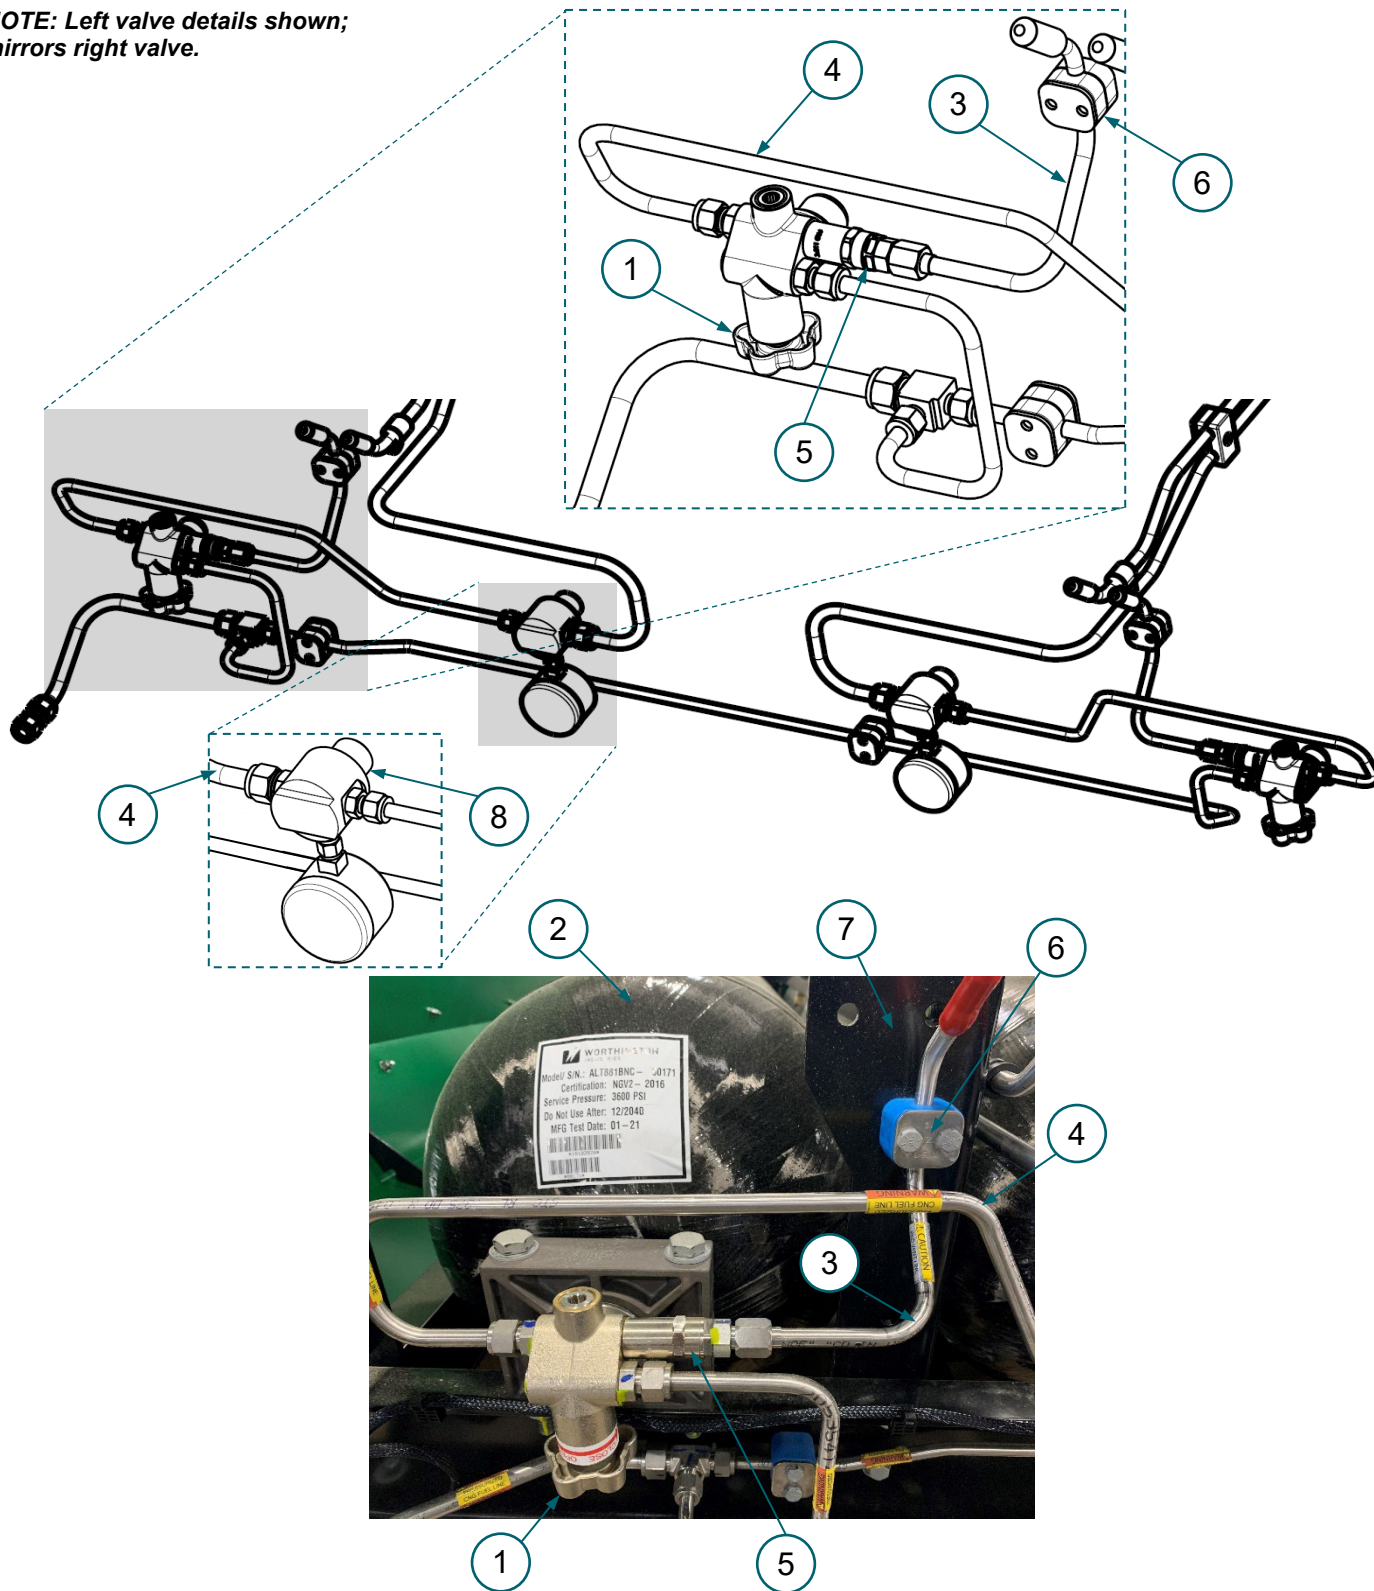

FIGURE 3. Left fuel system valve end plumbing components
4. Use a pair of 11/16-in wrenches to remove (3) left PRD vent tube from (5) left PRD. **FIGURE 3**
5. Use a pair of 11/16-in wrenches to remove (4) left live PRD tube from (1) left cylinder valve and (8) left manifold. **FIGURE 3**
6. Use a 7/16-in socket and a 7/16-in wrench to remove fasteners securing (6) tube clamp and (3) left PRD vent tube to (7) structure and set fasteners and clamp aside for reuse. **FIGURE 3**
7. Use a 7/8-in wrench to remove (5) left PRD from (1) left cylinder valve. **FIGURE 3**